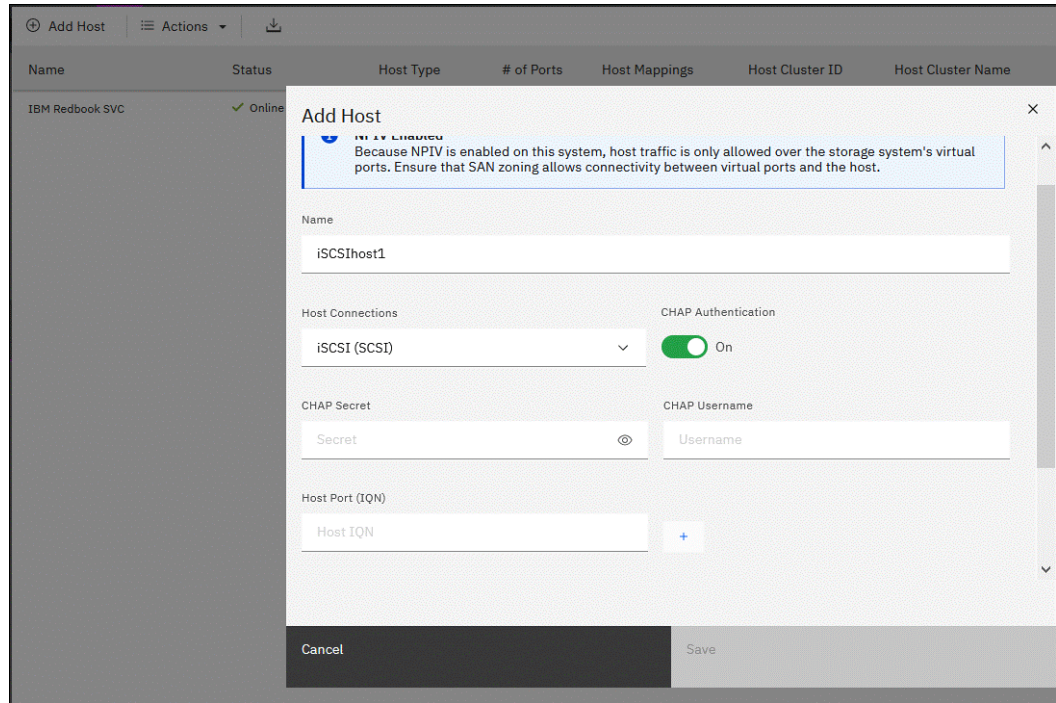

Figure 7-21 Adding the iSCSI host object to the configuration
- ▶ The name `iqn.1986-03.com.ibm:2076.<cluster_name>.<node_name>` is the IQN for an IBM FlashSystem node. Because the IQN contains the clustered system name and the node name, do *not* change these names after iSCSI is deployed. It is possible to check the IQN name and iSCSI configuration in the cluster’s GUI by selecting **Settings** → **Network** → **iSCSI**, as shown in Figure 7-21 on page 430.
1. In the left pane, select **Hosts** → **Hosts** → **Add Host** (in the host view) to open the host creation window (see Figure 7-21). Choose **iSCSI** in **Host Connections** list. Note that the CHAP authentication trigger is on, so the fields for CHAP credentials are shown in the interface. If CHAP is not used, turn off the trigger.